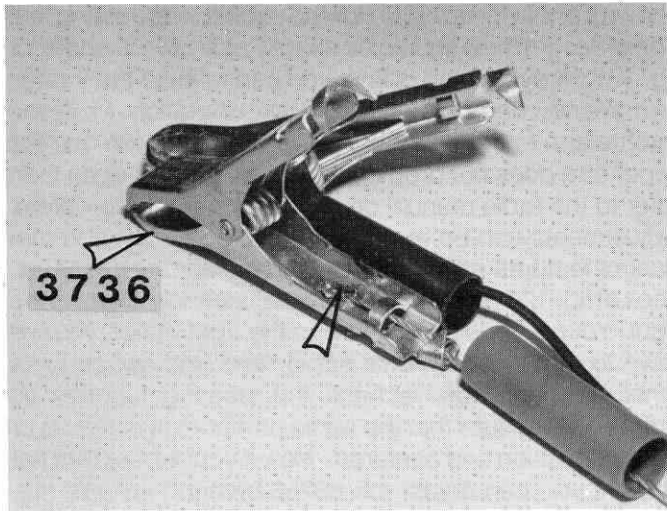

Fig. 143
□ Fig. 143 We supply a battery charge cord set with this kit which will charge your 7.2 volt battery pack from any 12 volt DC car battery. **NOTE:** There is a separate charge cord available #6736 for 8.4 volt battery packs. **You cannot connect this charge cord with any other power source!** There are many good chargers on the market which will allow you to charge off of AC (household current) as well as 12 volt DC if you need that feature. In the main plastic bag you will find a bag with two large alligator clips some red and black plastic sleeves and two different types of wire. We are going to have to solder the alligator clips onto the ends of the wires. **NOTE: Do not shorten wires!** The arrows in the photo are pointing to the positive wire and clip connector. The positive wire is the silver appearing wire with the clear plastic coating on it. This coating can be hard to see. The black wire is negative wire. We will start by connecting the positive connector first. Take an Xacto knife and remove about 1/2" of clear plastic coating from the silver appearing wire. Now slide the red plastic sleeve over the silver wire. Insert the wire into one side of the alligator clip and solder it to the clip. On the end of the clip are two little tabs you will need to bend these over the coated wire to help relieve the strain from the solder connection. Take the red plastic sleeve and slide it down over the arm of the clip. Install the second red sleeve over the other arm of the alligator clip. Now repeat the process using the black wire and black plastic sleeves.